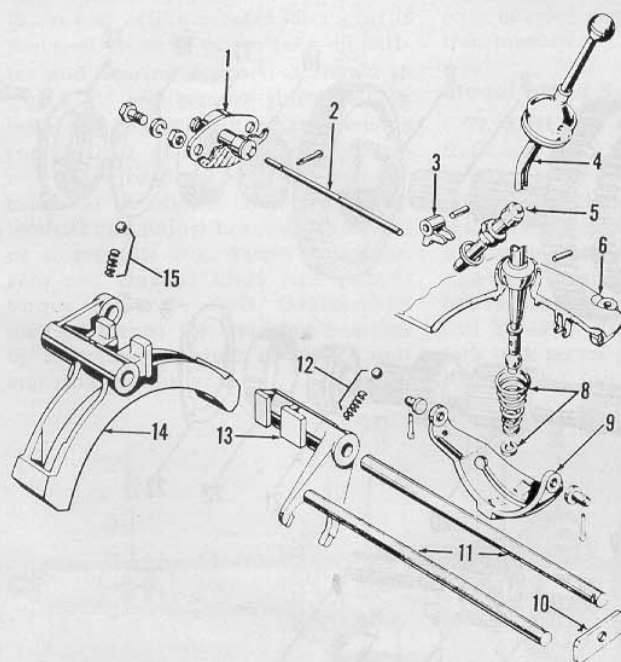

Fig. FO52—Gear shifter mechanism on models 2N-9N. Detailed changes were made in the design beginning with tractor serial 12500.
71. **SHIFTER RAILS AND FORKS.** Rails and forks may be removed without performing a front section split after steering gear is off and rear section is separated from transmission case as outlined in paragraph 70A. Remove gear shifter rail lock plate (10—Fig. FO52). Pull shifter rails (11) out rearward and remove forks (13 & 14) being careful not to lose detent balls and springs (12 & 15). Renew worn or damaged parts and reinstall in reverse order of disassembly.